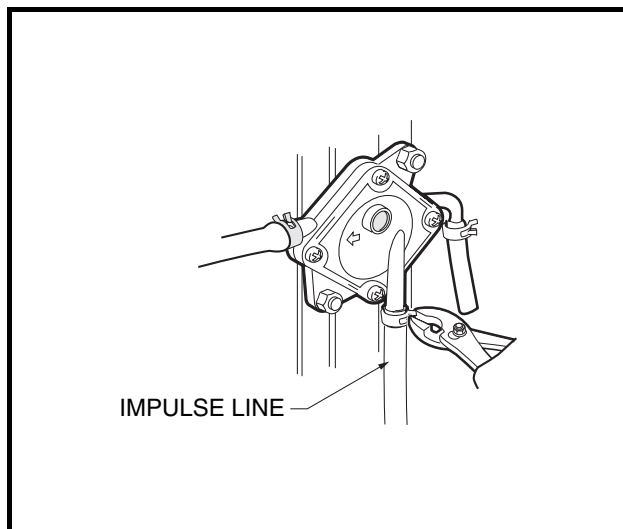

Figure 18-11 Impulse Line
- 4.3. Disconnect impulse line from fuel pump (**Figure 18-11, Page 18-7**).